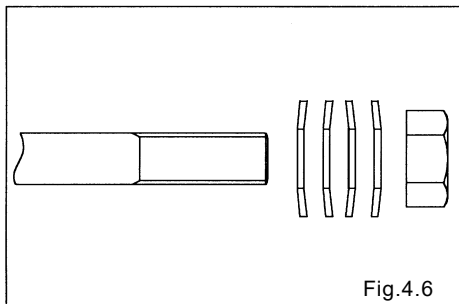

Fig.4.6
- Take care about the installation direction of the conical spring. [Fig. 4.6]